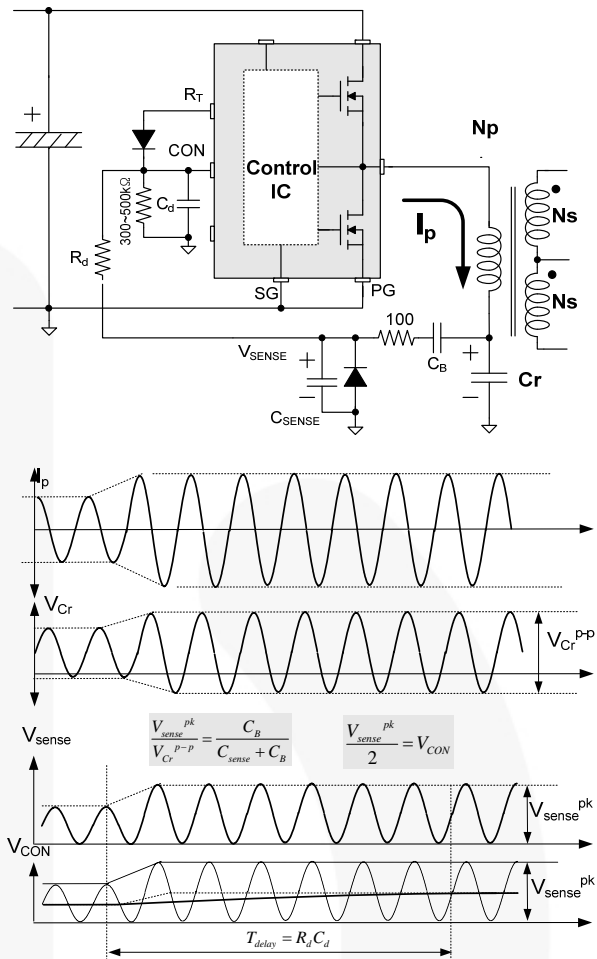

Figure 26. Current Sensing Using Resonant Capacitor Voltage
To minimize power dissipation, a capacitive voltage divider is generally used for capacitor voltage sensing, as shown in Figure 26.
**6.5 Overload Protection (OLP):** Overload is defined as the load current exceeding its normal level due to an unexpected abnormal event. In this situation, the protection circuit should trigger to protect the power supply. However, even when the power supply is in the normal condition, the overload situation can occur during the load transition. To avoid premature triggering of protection, the overload protection circuit should be designed to trigger only after a specified time to determine whether it is a transient situation or a true overload situation. Figure 26 shows a typical overload protection circuit. By sensing the resonant capacitor voltage on the control pin, the overload protection can be implemented. Using RC time constant, shutdown delay can be also introduced. The voltage obtained on the control pin is given as: